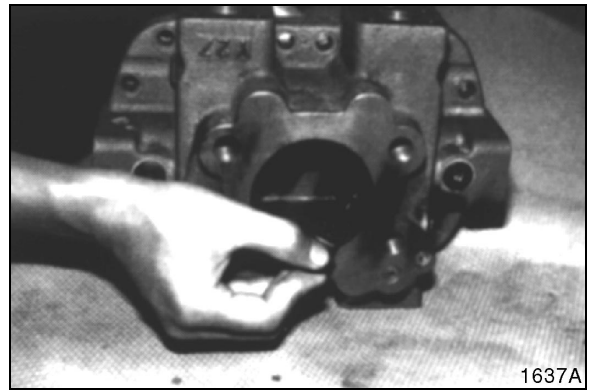

Figure 44
16. Remove rod through inlet side. See Figure 44.